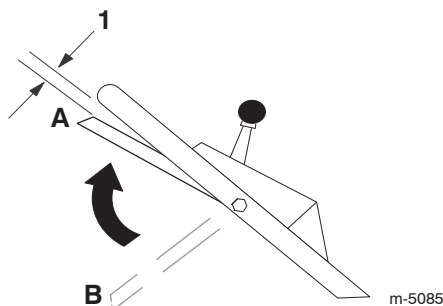

Figure 14
- Lift the blade control bail up to about one inch (2.5 cm) below the handle; refer to position **A** in Figure 14.